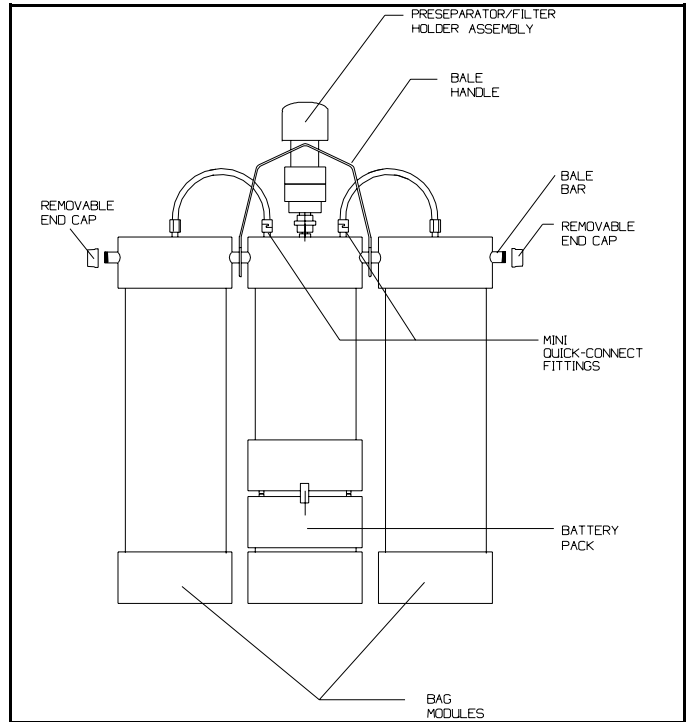

Figure 5.3. Attaching Bag Canisters and Tubing
5. Attach tubing from canisters to the mini quick-connect fittings on the sampler's 6" top cap (see Figure 5.3).